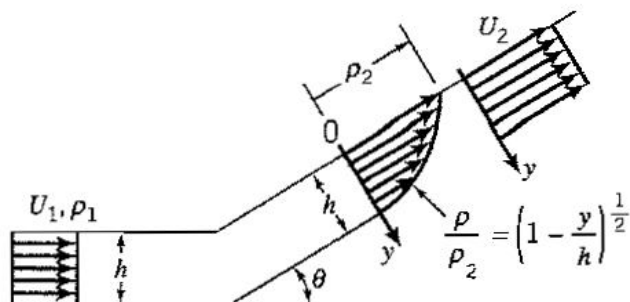

Figure P3.30
3.30 A fluid enters the rectangular duct shown in Figure P3.30 with constant velocity U_1 and density ρ_1 . At the exit plane, the fluid velocity is U_2 and the density has a profile described by a square root relationship, with a maximum value of ρ_2 . Find ρ_2 in terms of ρ_1 when $U_1 = U_2$. Also find the net vector momentum flux leaving the duct.